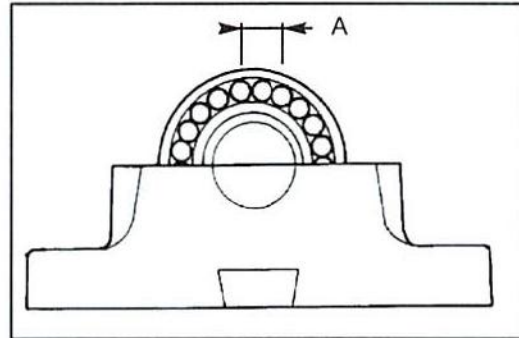

Fig 1
6. Measure the radial clearance on top of the bearing between the rollers and outer ring with a feeler gauge. The clearance should be 0.02 to 0.03 mm. Measure the clearance by pushing the feeler gauge between the rollers (point A, Fig 1) through the bearing and then moving the gauge back and forth between the rollers and outer ring (Fig. 2). Do not force the feeler gauge through the clearance.